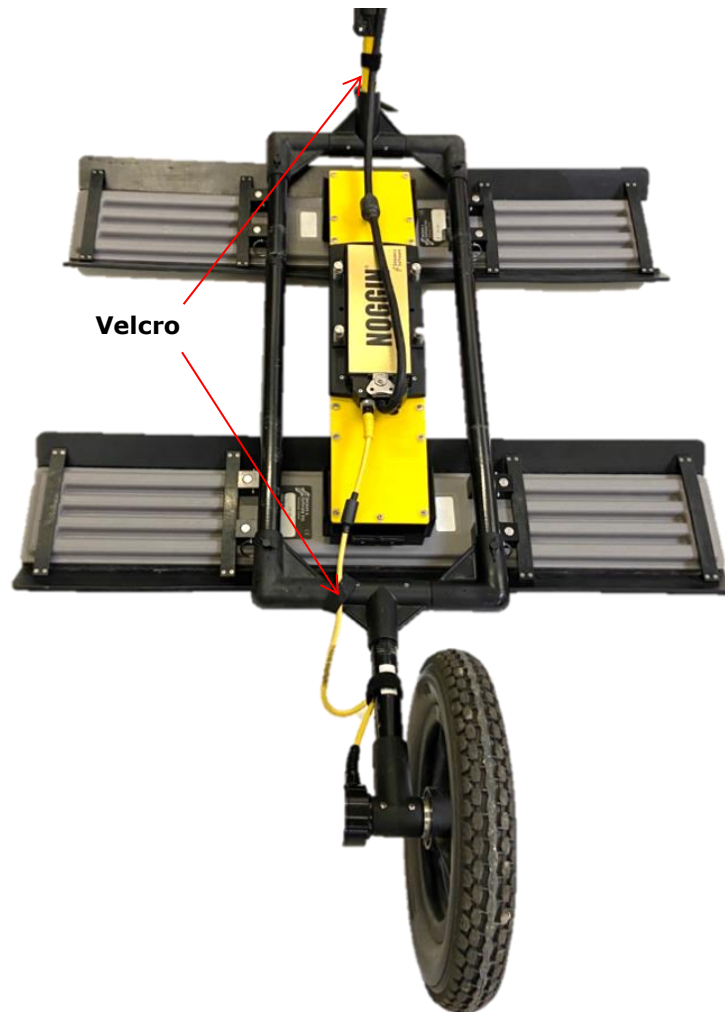

Figure 2-40: Connecting main cable and odometer cable. Secure to frame with Velcro straps provided.
- a) Route the Noggin-to-DVL cable on top of the Noggin sensor electronics towards the front. Make sure that the cable does not hover over or contact the antennas as this creates noise in the GPR data (Figure 2-40).